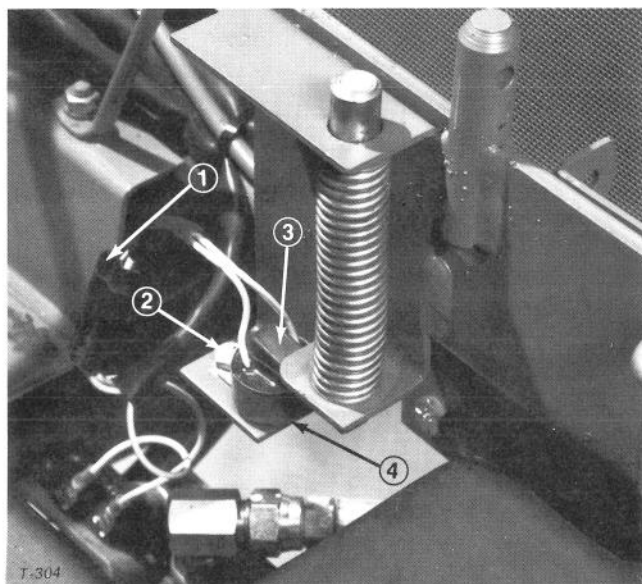

Figure 40
2. Remove instrument cover, disconnect negative battery cable from battery and separate wire harness connectors (Fig. 40). Remove capscrew and locknut (Fig. 40) and lift switch up to disengage locating pin on bottom of switch from hole in mounting bracket.
3. To install new switch, set it on mounting bracket (Fig. 40) and assure locating pin on bottom of switch fits into hole in bracket. Secure switch in place with capscrew and locknut.